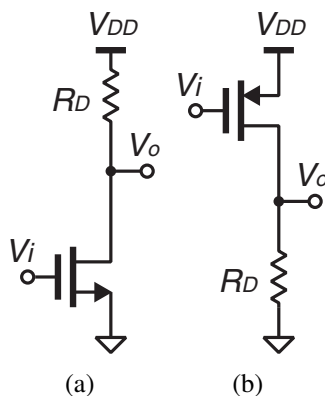

Figure 1: (a) NMOS and (b) PMOS common-source amplifiers.
In this lab, you are to design, simulate, and implement NMOS- and PMOS-based common-source amplifiers with a resistive load shown in Figure 1. They will be designed for different requirements such as gain, swing and supply voltage.
1. Find the expressions for the small-signal gain of the NMOS and PMOS common-source amplifiers shown in Figure 1 designed for the maximum output swing with an arbitrary I_D . The gain should be expressed in terms of only V_{DD} and V_{ov} without any numerical values.